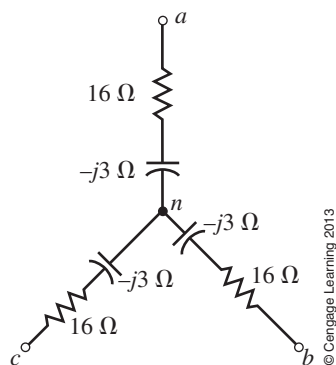

FIGURE 24-52
38. For Figure 24-52, if $V_{an} = 277$ V, determine the total active power, total reactive power, total apparent power, and power factor.